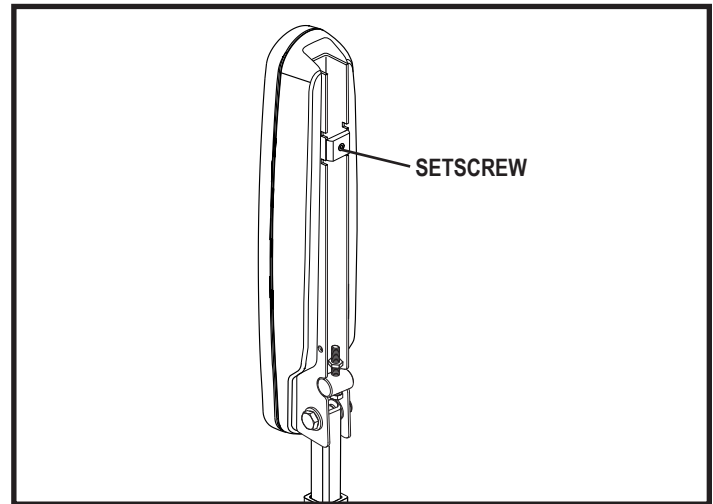

Figure 12. Underside of Armrest
3. Loosen the setscrew on the controller bracket. See **figure 12**.
5. Loosen the setscrew on the underside of each armrest. See **figure 12**.